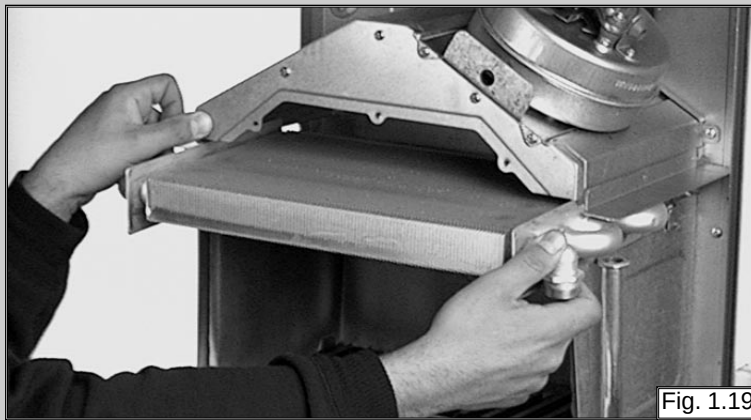

Fig. 1.19
3. Pull it straight out (see fig. 1.19).